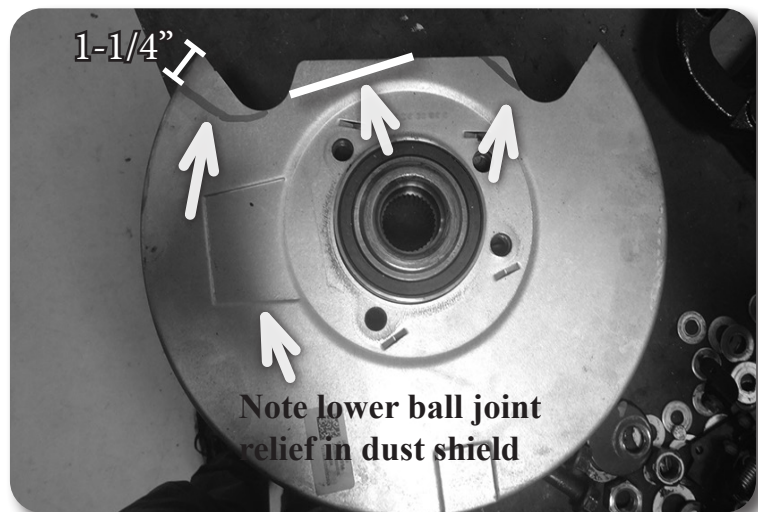

Figure 34A DRIVER SIDE SHOWN
52. The brake dust shield needs to be trimmed on both the driver and passenger sides. Measure in from the lower vertical edge 1-1/4" and make a cut as shown in Figure 34A. The upper edge will need to be cut at a 45 degree angle as shown in Figure 34A on the upper right side. Figure 34 A & B show the cut to clear the brake caliper. The cuts will be mirror images on the passenger side as to what is shown in the pictures.